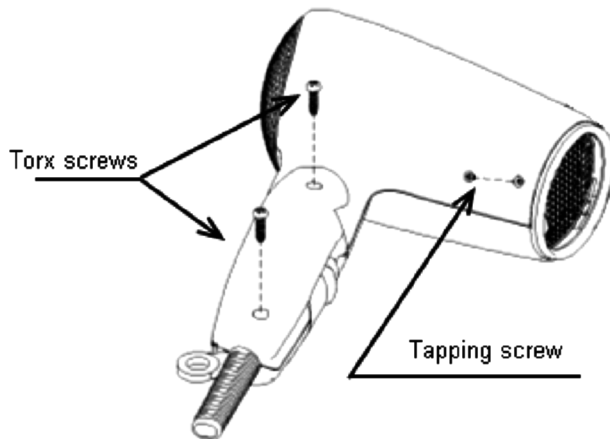

Figure 5
2. Remove a Tapping screw by Plus Driver and 2 Torx screws by IEC driver as figure 5.